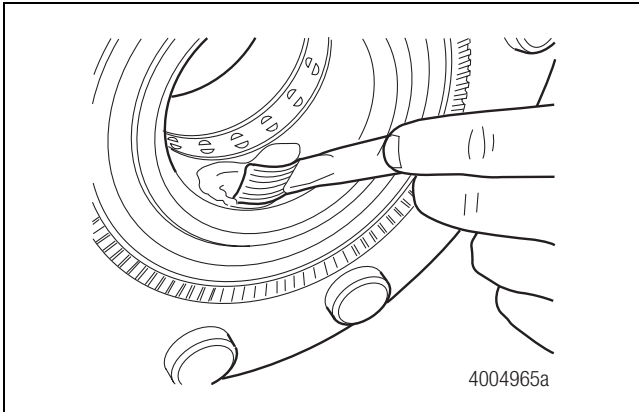

Figure 3.27
C. Apply a light coating of bearing grease to the hub bore. The entire hub bore which comes in contact with the spindle should be covered. This grease will help reduce spindle wear, assist in hub removal, and help seal the hub-spindle joint. Figure 3.27.